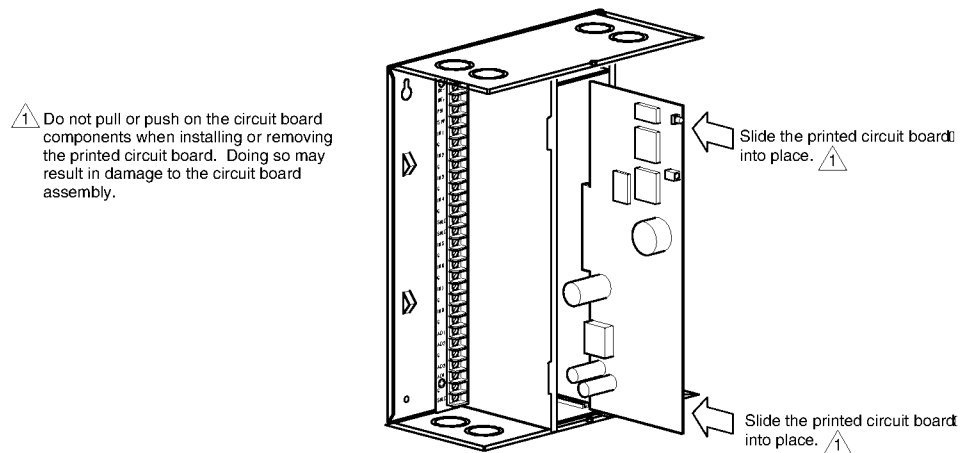

Figure-4 Printed Circuit Board Installation.
5. Slide printed circuit board into place (Figure-4).